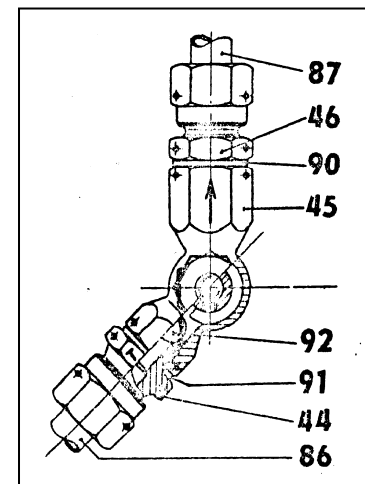

FIGURE 12-29
- (1) Remove lock wire from tube cap nuts **86** (figure 12-29) or the tube cap nut **87**, or both. Remove the tube **86** or **87** (or both).
CAUTION: BE CAREFUL NOT TO LOSE THE 5/16" **92** (FIGURE 12-29). IT FITS INSIDE FITTING **44** AND MUST BE IN PLACE PRIOR TO REASSEMBLY.